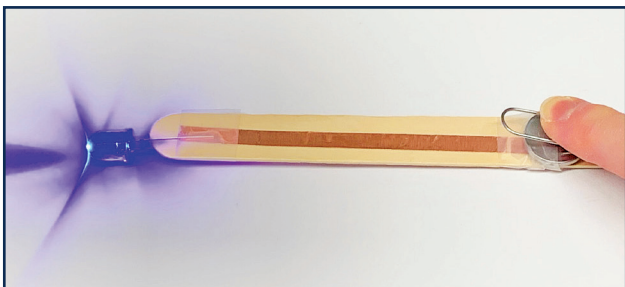

Figure 3. Testing the flashlight.
- Test by pushing the paperclip down so that it touches the battery (Figure 3). The LED should light up. If it's working, tape the legs of the LED down with the masking tape.